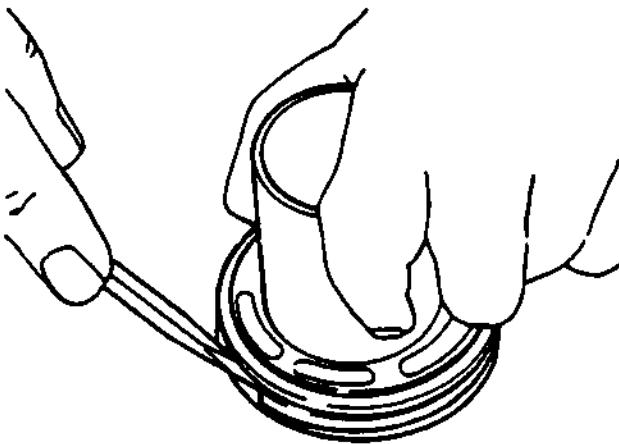

Figure 21 – Removing Suction Valve Retaining Ring
1. The suction valve assembly is secured to the liner with three 120-degree retainers (13).
2. Place the liner and valve assembly on a flat surface as shown in Figure 21 and pry the retainers outward to remove. Do not move the liner around on top of the valve assembly.